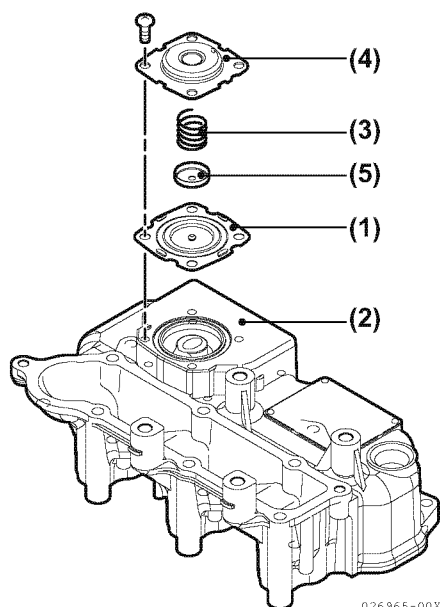

Figure 5-17
The TNM engines use a crankcase breather system that has a spring-backed diaphragm (**Figure 5-17, (1)**) in the valve cover (**Figure 5-17, (2)**). When the crankcase pressure reaches a predetermined value, the diaphragm opens a passage that allows crankcase fumes to be routed to the intake manifold.
To inspect the diaphragm and spring (**Figure 5-17, (3)**):
1. Remove the bolts retaining the diaphragm cover (**Figure 5-17, (4)**).
2. Remove the diaphragm cover, spring, diaphragm plate (**Figure 5-17, (5)**) and diaphragm.